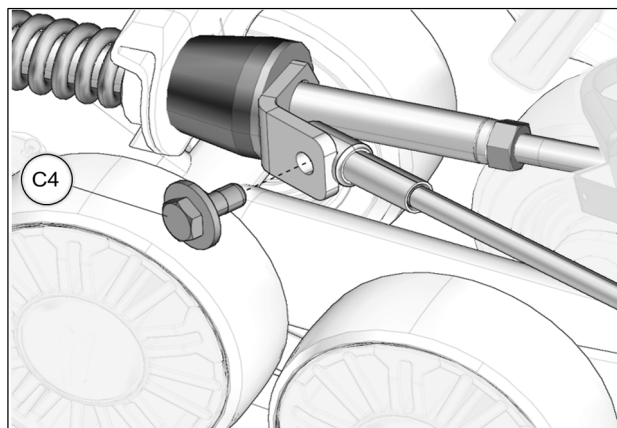

Fig. 26
18. Reverse steering wheel a little to be able to bolt support plate and cable together. Tighten provided bolt (C4) to 35 N•m [24 lb•ft]. See Fig. 26. Repeat steps on right side.